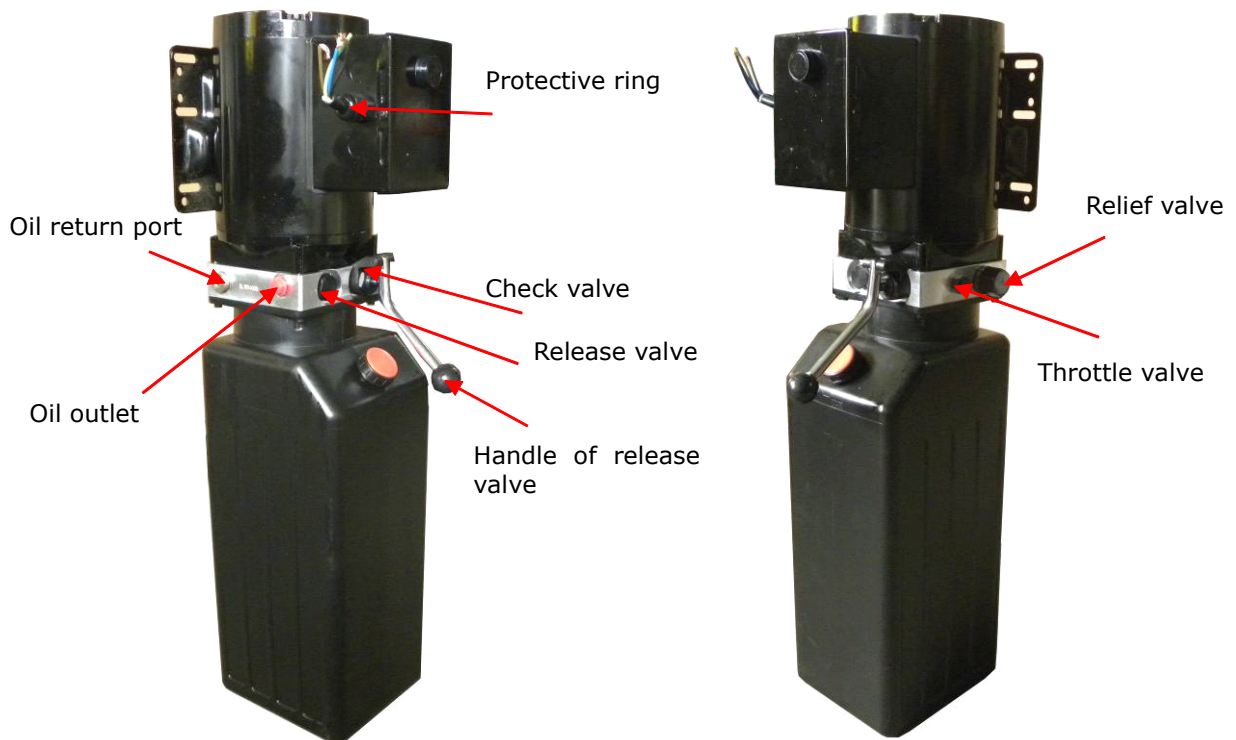

Fig. 49
C. PEAK manual power unit, 380V/50HZ, 3 phase (See Fig. 49)